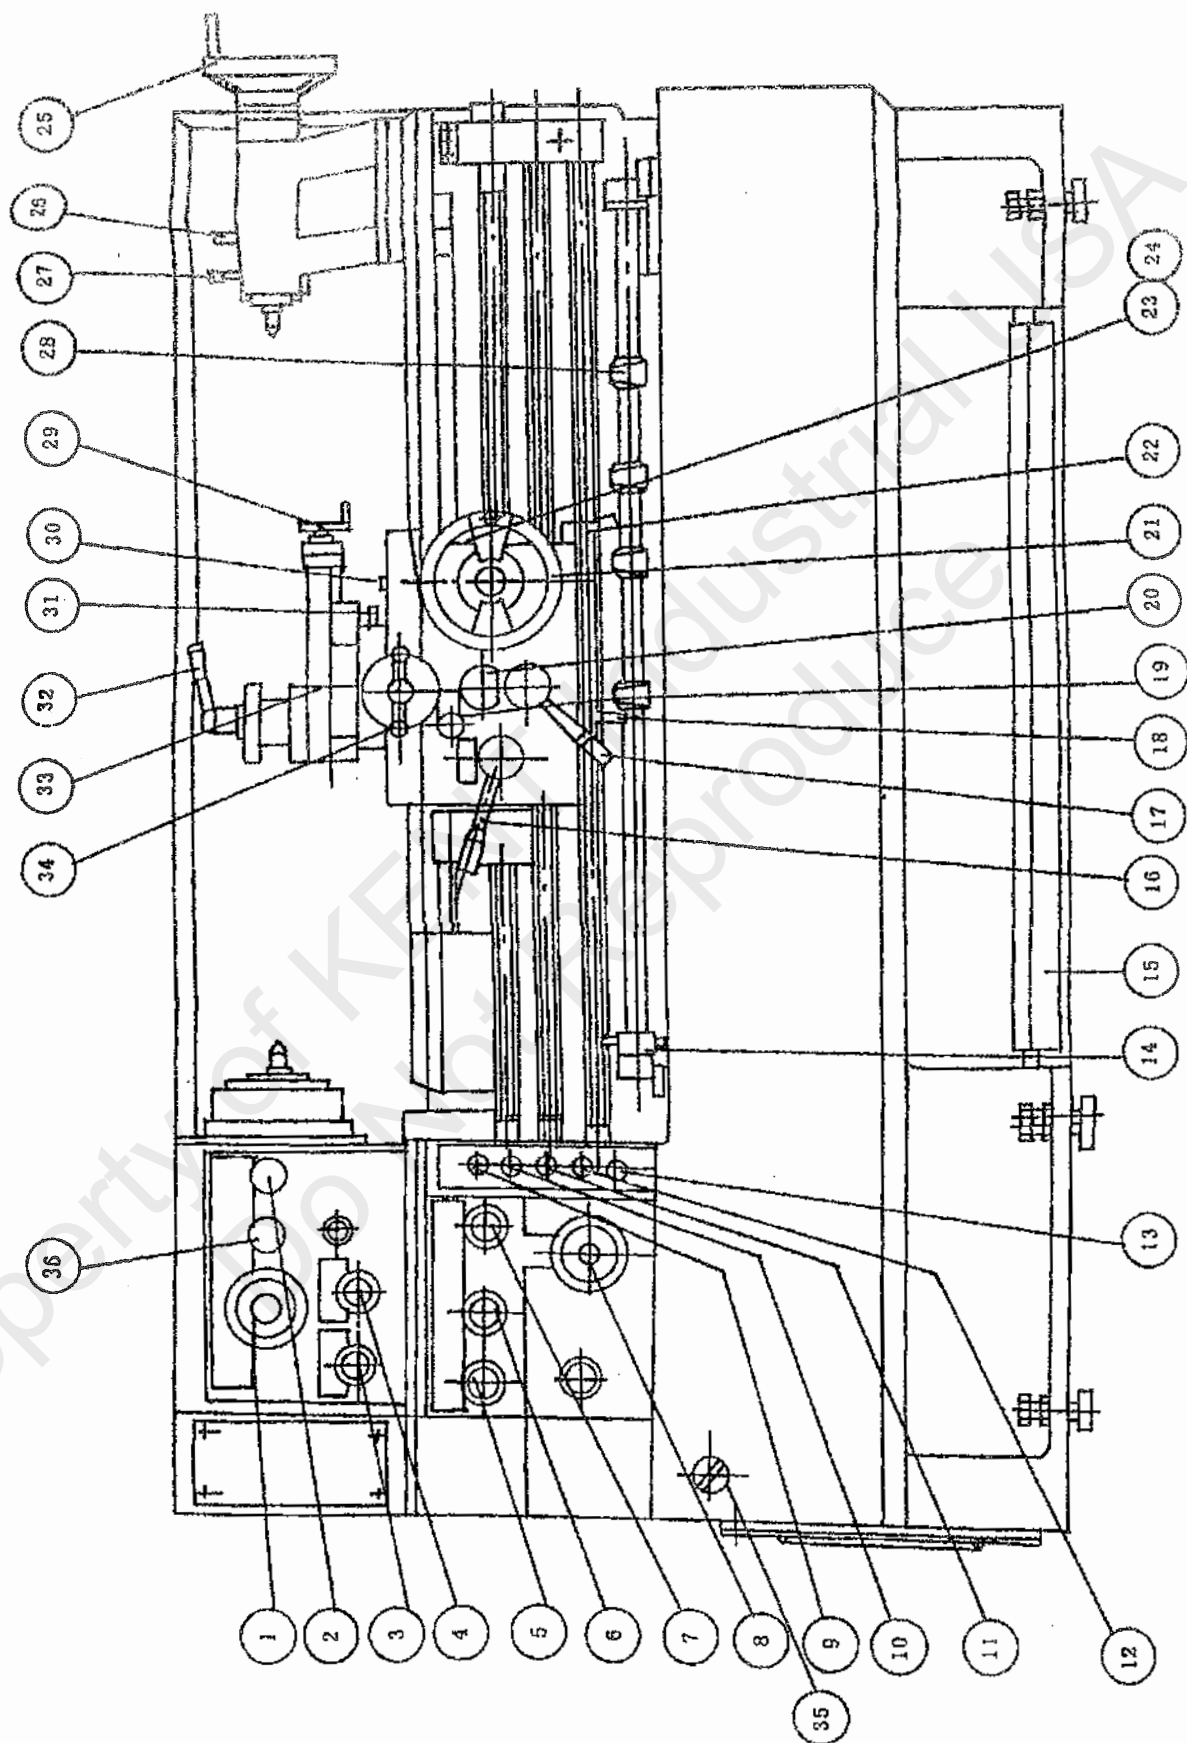

Fig.5 Machine operation Diagram
5.2 Machine operation diagram(See Fig.5)
5.3 Preparation before starting (refer to Fig.5)
Operation: (refer to Fig.5)
Operation (refer to Fig.5):